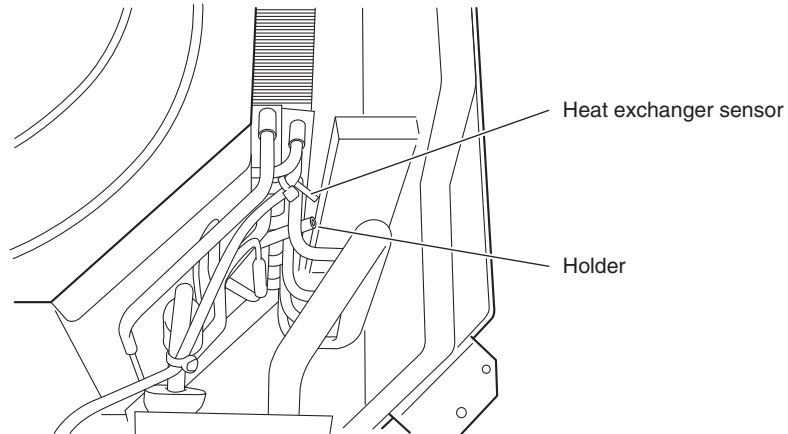

Fig.19
- (1) Remove the heat exchanger sensor from the sensor holder. (Fig. 19)